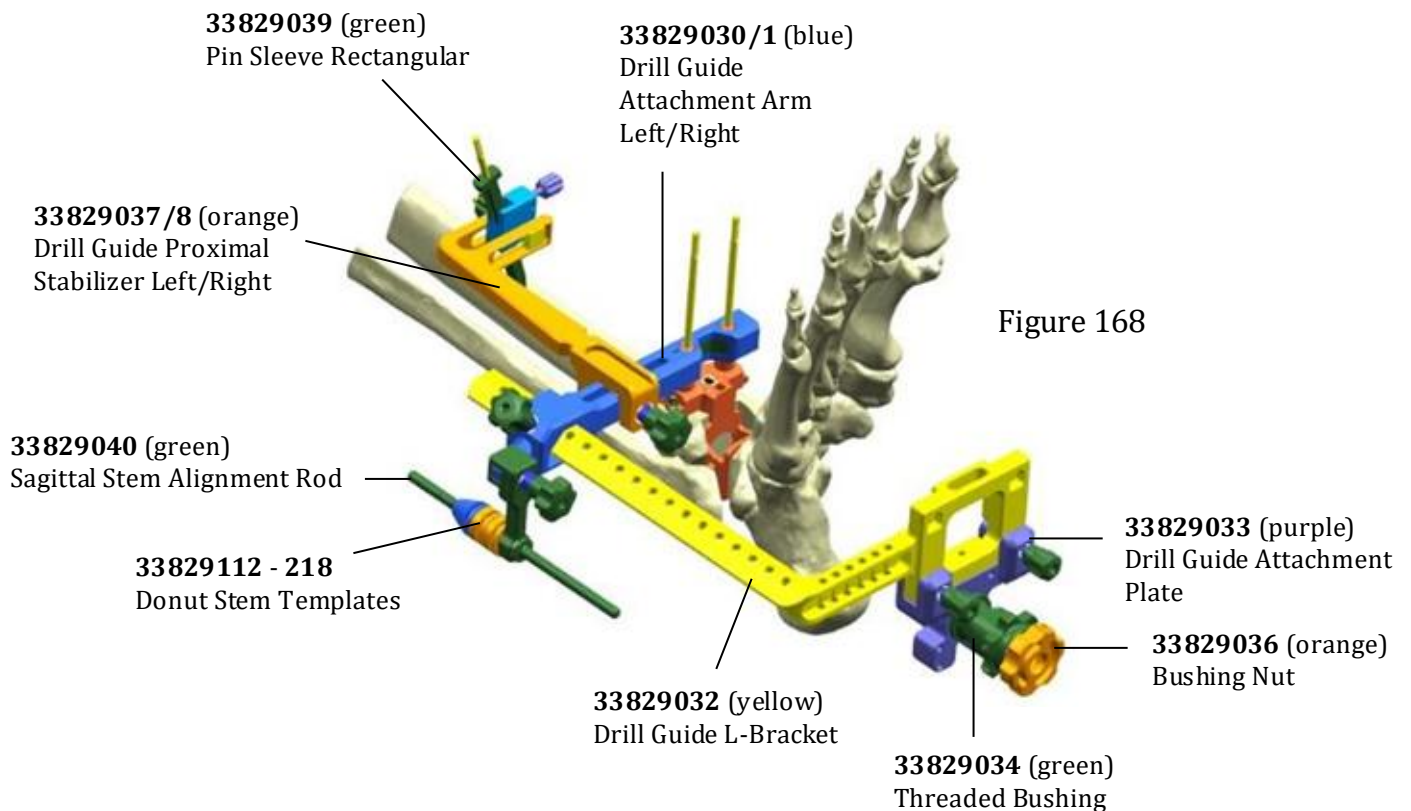

Figure 168
5. Attach the Drill Guide Proximal Stabilizer (33829037 or 33829038) to the Attachment Arm and secure in place with the stabilizer knob. (Figure 168)